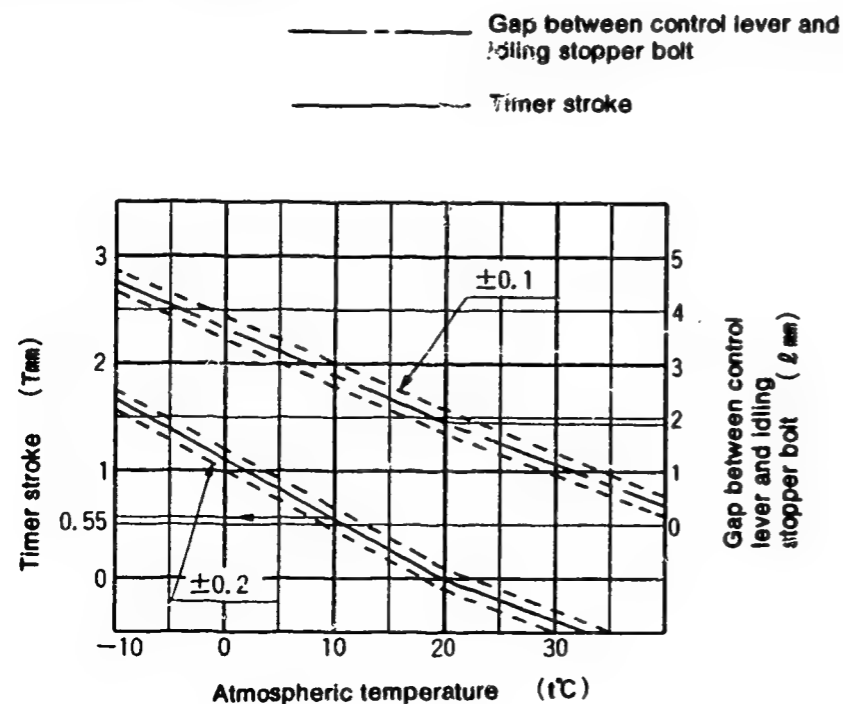

Fig. 2
1. Calculate the timer stroke from Fig. 2 according to the atmospheric temperature at the time of adjustment.
1. Calculate the block gauge dimension  $\ell \pm 0.05\text{mm}$  from Fig. 2 according to the atmospheric temperature at the time of adjustment.
Formula for calculating Fig. 2